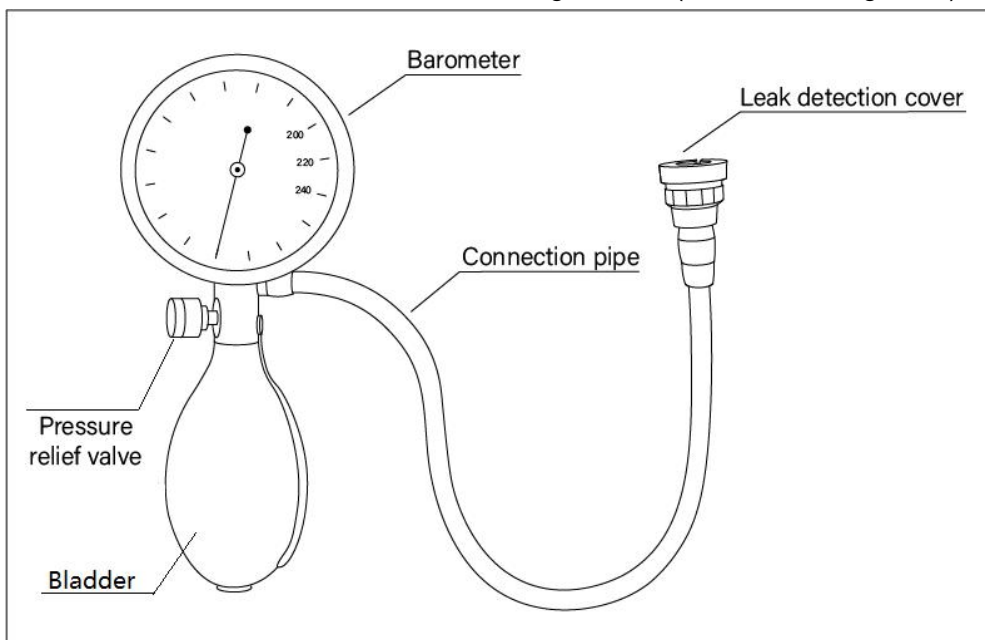

Fig. 7.10
- The barometer pressure should not exceed 220mmHg; if the pressure is too large, it may damage the Small Animal Endoscope. Rotate the air pressure relief valve to discharge the air (as shown in Fig. 7.10).